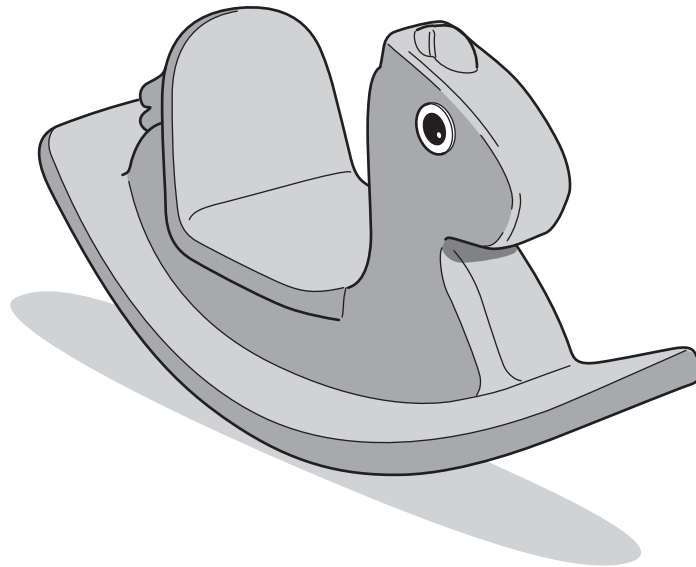

Fig. 11.4
- (f) Fig. 11.4 shows a different design of rocking horse made from plastic.